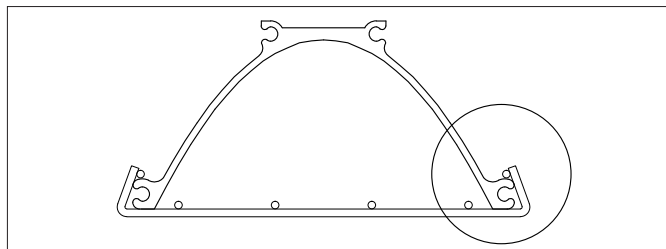

Figure 3 – Correctly installed wire guard
13. Wire guard (if required) to be installed per Figure 3, page 4. When installed, the wire guard should move freely on the reflector.